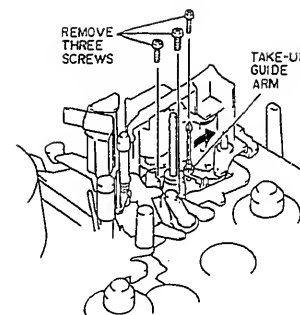
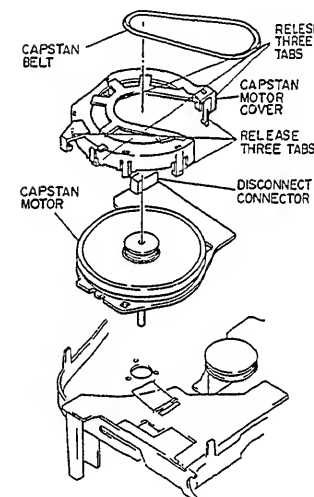

Fig. 2-65
Fig. 2-66
1. Move the take-up guide arm in the direction of the arrow (pressure roller side). (See Fig. 2-65)
2. Remove three (3) screws holding the capstan motor.
3. Disconnect connector CN1M on the capstan motor. (See Fig. 2-66)
5. Release three (3) tabs holding the capstan motor cover and capstan motor.
6. Release three (3) tabs and remove the capstan motor cover.